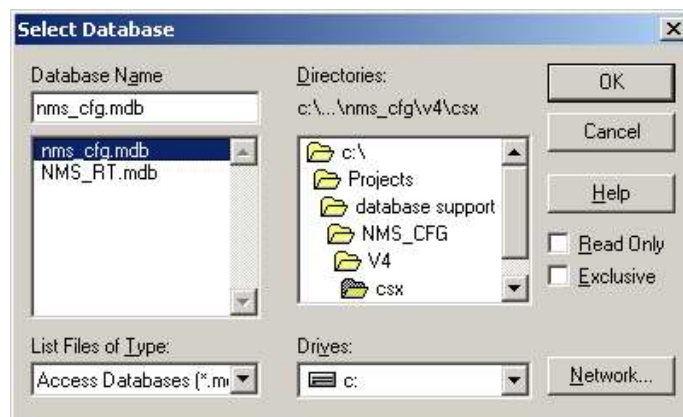

Figure 2-9. Select Database Dialog Box
- Click the 'Select' button in the 'Database' group box. The 'Select Database' dialog box will appear (Figure 2-9).